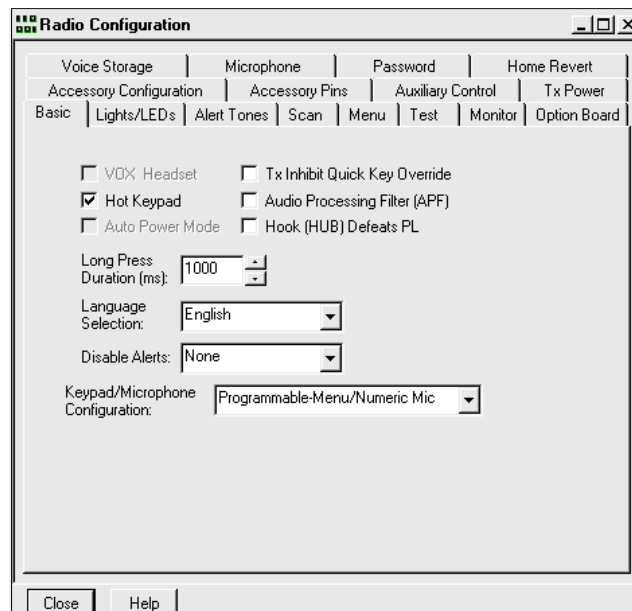

Figure 11-1. Radio Configuration, Basic, Receive Radio
4. If necessary, uncheck the "Hook (HUB) Defeats PL" selection box. Your screen should appear similar to Figure 11-1.